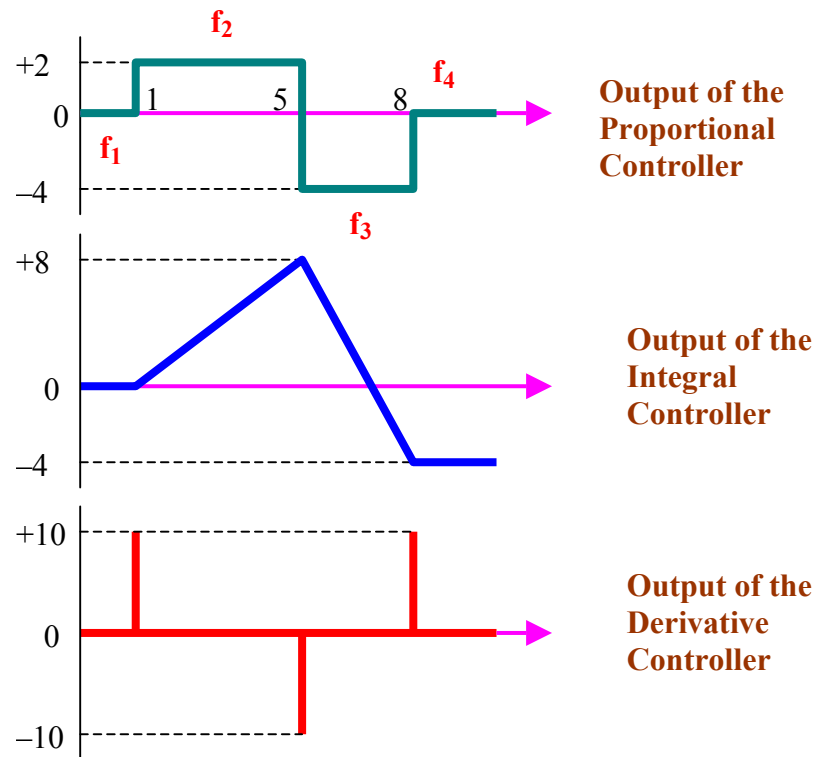

Figure 9-3. Output signals of each controller for analysis purposes.
5. The input signal is equal to the output of the Proportional Controller because we are using a circuit with unity gain and non-inverting output as seen in figure 9-3.